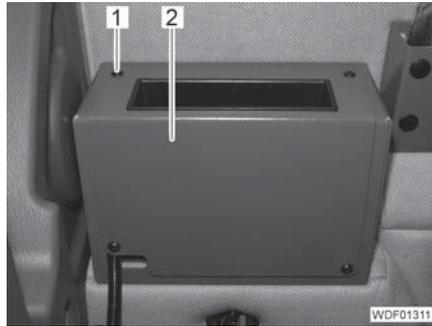

Fig. 451 Cover of the console
- Unscrew the 4 screws (Fig. 451,1).
- Remove the cover (Fig. 451,2).
- Position the cover (Fig. 451,2).
- Screw in and tighten the 4 screws (Fig. 451,1).